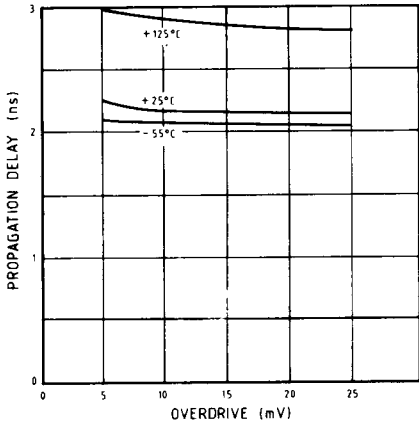

Fig.6 Propagation delay, input to output as a function of overdrive
- 3 -100mV pulse with -10mV overdrive. See Figs 6 to 8.